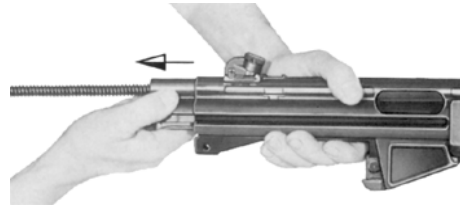
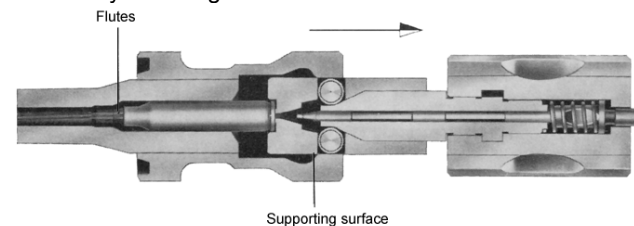

Fig. 37 Removing the bolt assembly
Fig. 35 Bolt in unlocked position
- Slide off buttstock and back plate (Fig. 35). Remove grip assembly. Retract bolt assembly by means of the cocking lever and remove it from the receiver (Fig. 37).
As a result of the beveled surfaces of the locking piece, the locking rollers are cammed against the supporting surfaces in the barrel extension (Fig. 35). The weapon is now ready to fire again.